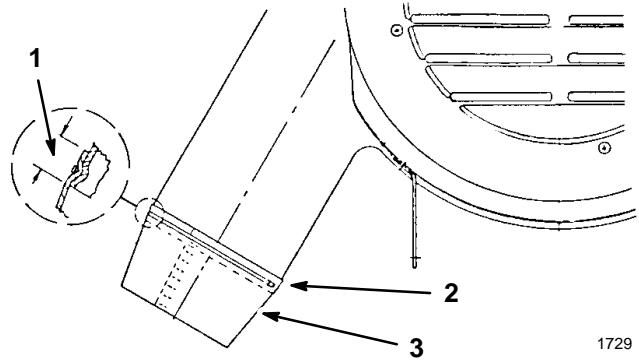

Figure 19
3. Slide the large opening of the seal over the top assembly inlet. Place the seam to the bottom and overlap the seal one inch onto the top (Fig. 19).
4. Position the tie strap in the groove in the top assembly inlet. Pull the tie strap tight to secure the seal to the top assembly, then cut off the loose end (Fig. 19).